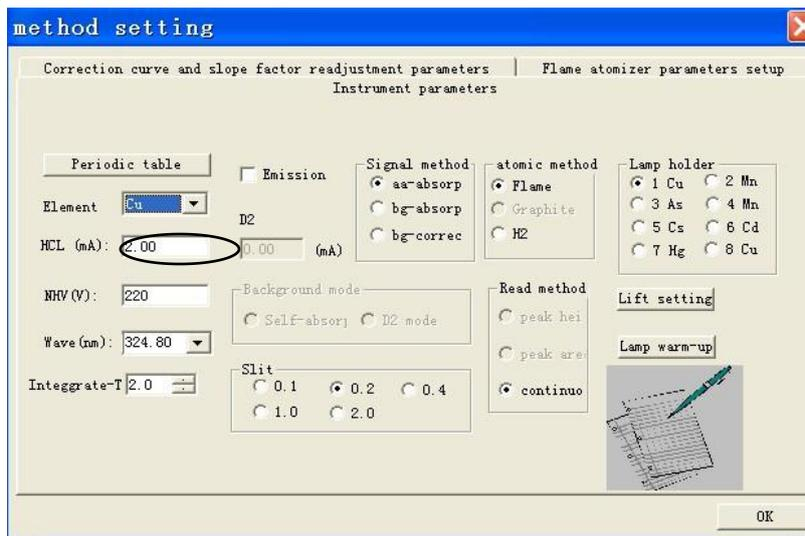

Figure 4-17
7. Lamp current selection: Enter the desired value into the "Lamp current" field. The range of lamp currents is **0 – 12mA**. See Figure 4-17.